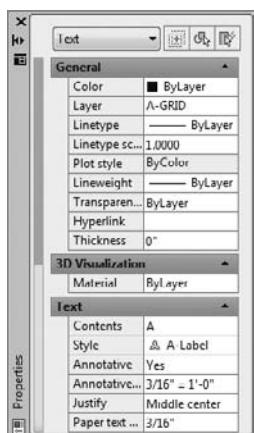

FIGURE 8.33 Modifying the KITCHEN text using the Properties palette
- a. Under General, change Layer, in the group to A-GRID (see Figure 8.33).